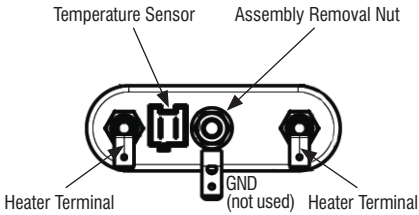

Figure 9 - Heater/Temperature Sensor Assembly
6. Disconnect the wire connectors from the heating element. See Figure 9, page 21.
6. Disconnect the temperature sensor connector from the heating element. See Figure 9.